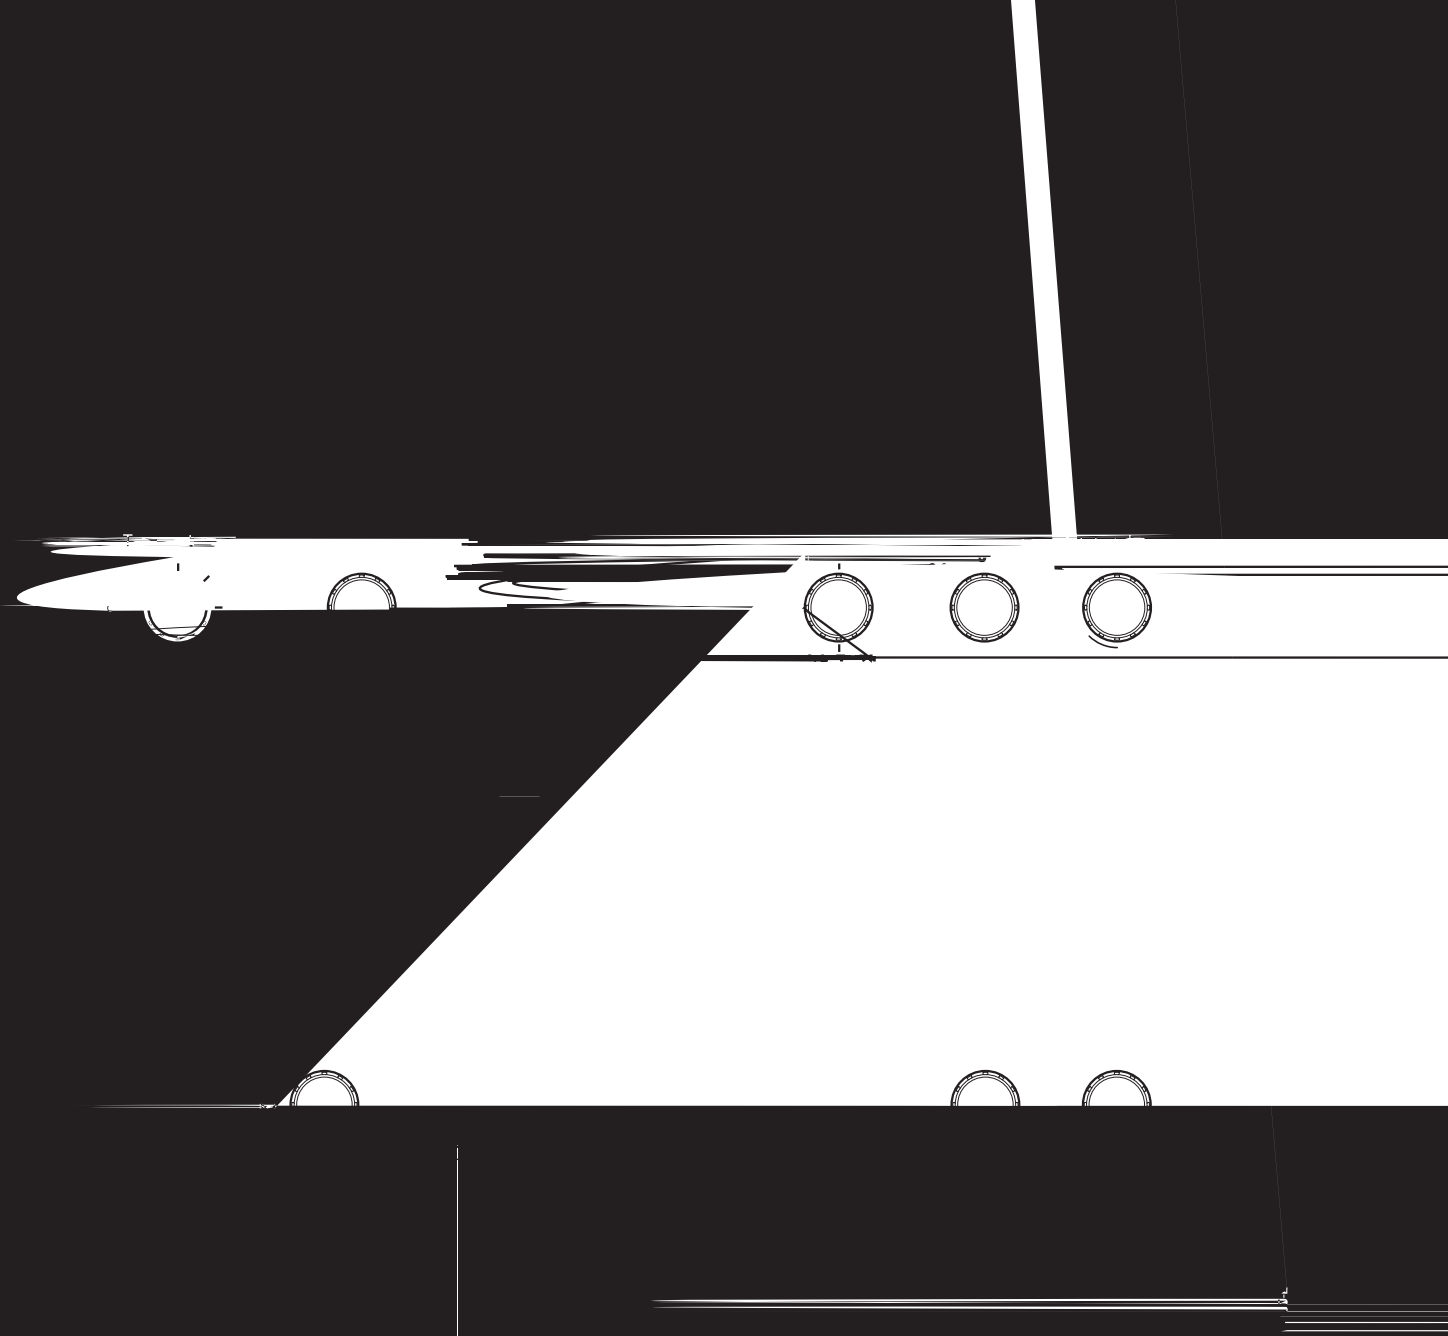
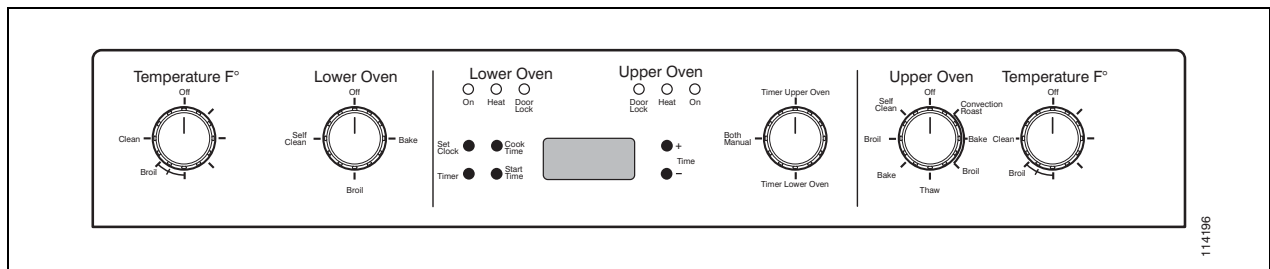

Figure 3.
Figure 7. Double Oven Control Panel, HBL/HBN45..
All the ovens have the following controls, as shown in Figure 3:
The double oven control panel is the upper panel shown in Figure 3 and the single oven control panel is the lower panel shown.
For manual operation of the oven set the Timer/Manual Selector knob (see Figure 3) to **Manual**. If you have a double oven, as shown above (Figure 7) you have three setting positions available:
1. Set Mode selector knob for the oven to the cooking mode desired. Refer to Figure 3 and Table 3 if you are not sure which of the knobs on your oven is the selector knob or which function you wish the oven to perform.
3. Set the Timer/Manual Selector (Figure 3) to Timer for the single oven or to **Timer Upper Oven or Timer Lower Oven** for double oven, so that oven programmer is enabled for the oven you wish to use in programmed operation.
3. Set the Timer/Manual Selector (Figure 3) to Timer, for the single oven, or to **Timer Upper Oven** or **Timer Lower Oven**, for the double oven, so that oven programmer is enabled for the oven you wish to use in programmed operation.